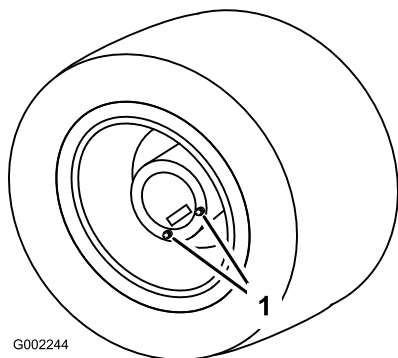

Figure 49
1. Position the sprayer on a level surface with the rear wheels positioned for draining as illustrated in Figure 49.
3. Place a pan under the drain plugs and remove them from the wheel (Figure 49).